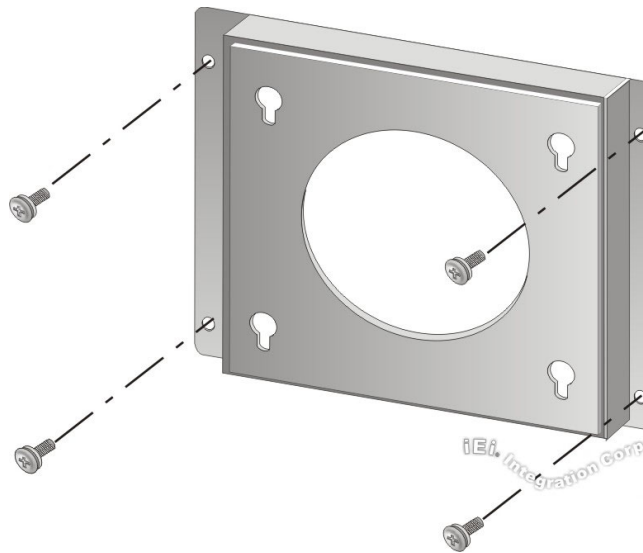

Figure 3-26: Wall-mounting Bracket
Step 5: Secure the mounting bracket to the wall by inserting the retention screws into the four pilot holes and tightening them (**Figure 3-26**).